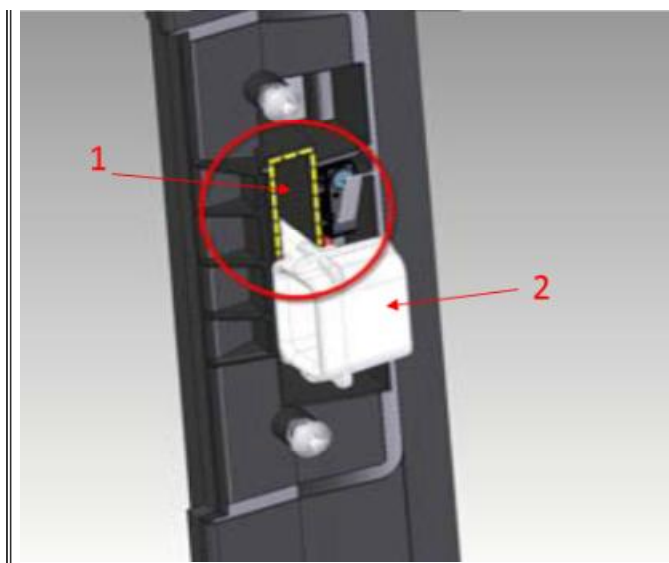

Figure 3: Inner handle slide and switch area (cover removed for clarity)
5. Apply lubricant to area shown below in Figure 3, the cover does not have to be removed
9. If an excess of lubricant is present, it can be cleaned by using a clean rag that is moistened with soapy water (dilute a tea spoon of Dawn dishwater soap into a gallon of water). Wipe excess away and then rewipe with a dry clean rag. DO NOT wipe inside or around switch area (figure 3 item 1).